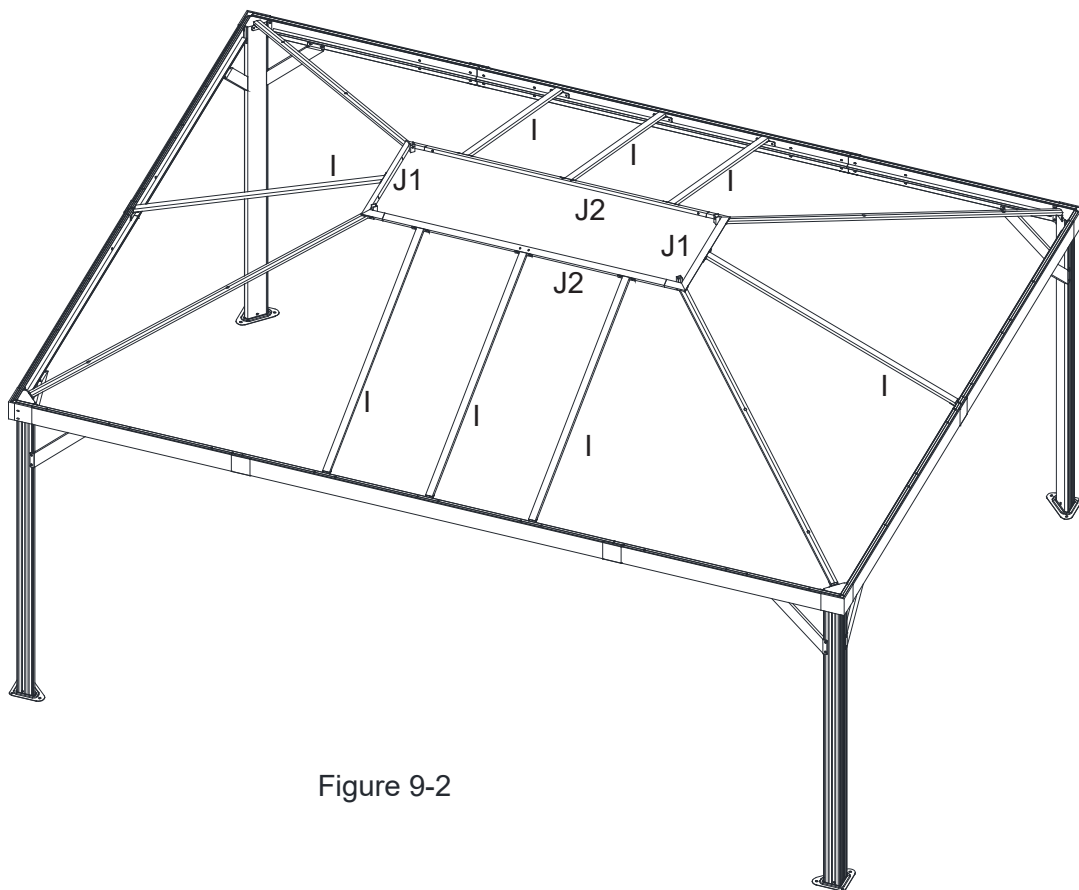

Figure 9-2
- 9.2 Repeat for opposite sides. Tighten All Bolts. See Figure 9-2.